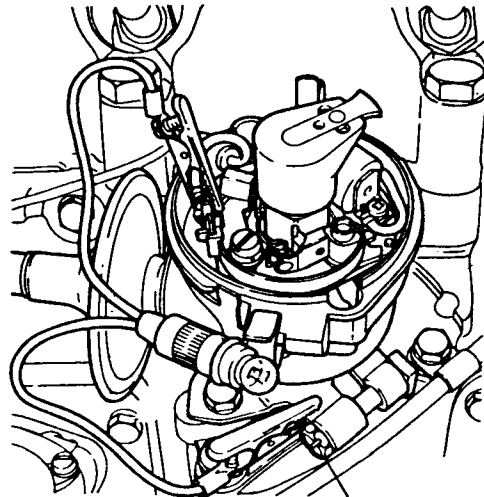

Fig D3.4
- (5) Refer to Fig D3.4. If the pulley mark is not in the correct position, loosen the distributor clamp nut (1).
- (6) Rotate the distributor body counterclockwise past the test lamp illumination position. Carefully rotate clockwise until the lamp just goes out. Tighten the clamp nut (1) with the unit in this position.
- (7) Repeat steps (4) onwards.
- (8) Remove the test lamp circuit.